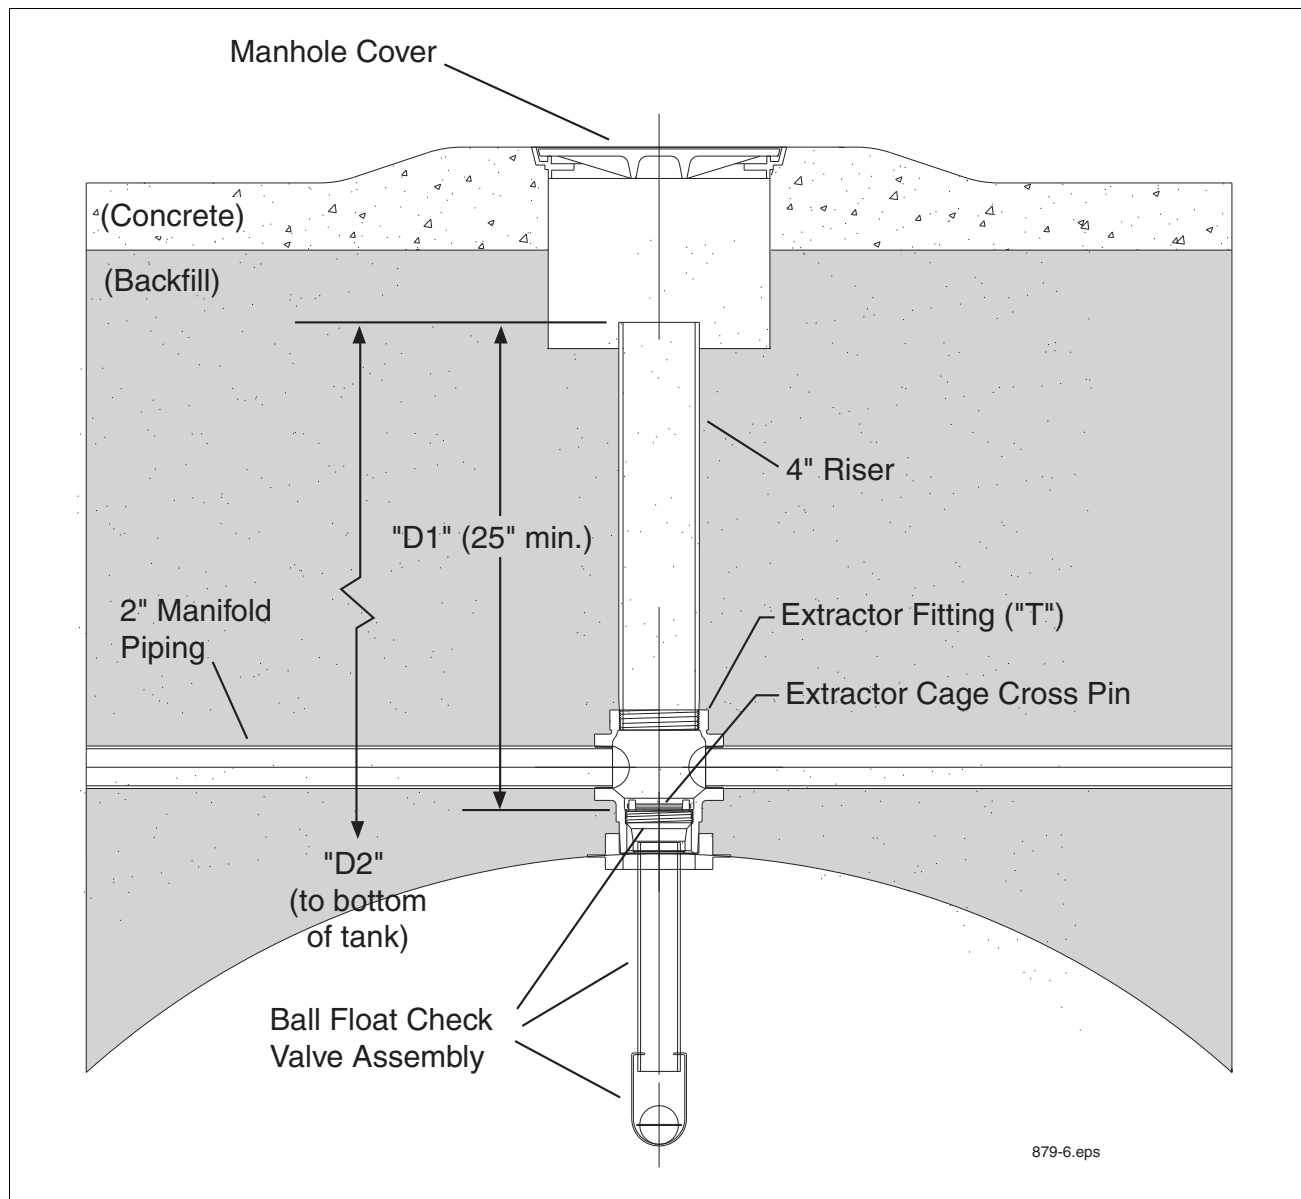

Figure 5. Determining Mag Probe length for installation in a vapor extractor riser
1. Measure the distance from the top of the riser to the Extractor Cage Cross Pin (see Figure 5). Record this distance as "D1" (Important - Dimension "D1" must be at least 25 inches).